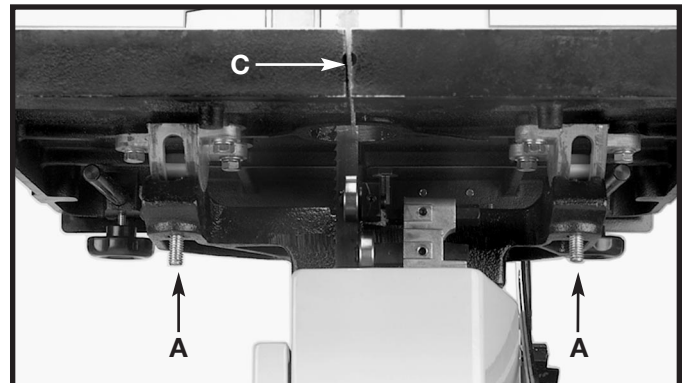

Fig. 6
NOTE: Make sure that the table slot (C) Fig. 6 is facing toward the right of the machine.
4. Align the two table studs (A) Fig. 6, in the bottom of the table, with the two holes in the trunnion assemblies.